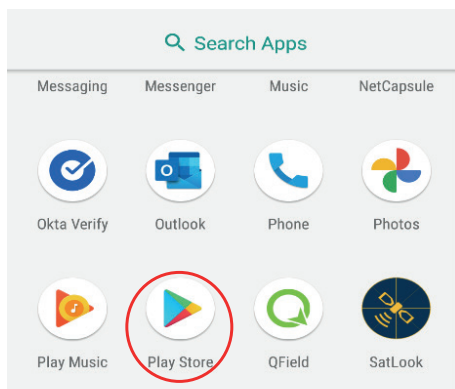
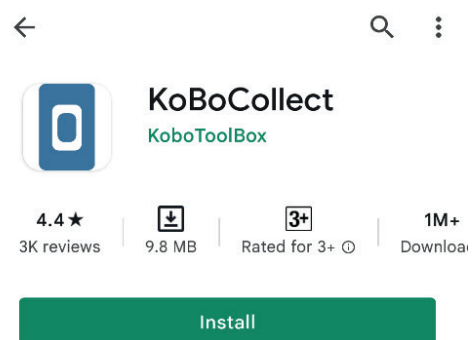

Figure 21: Trimble TDC600 interface - download from Google Playstore
Figure 22: Trimble TDC600 - KoBoCollect Application download
1. For android users; search for "KoBoCollect" under the Google Playstore/Galaxy Store. Download the application. (Figure 21 and Figure 22)